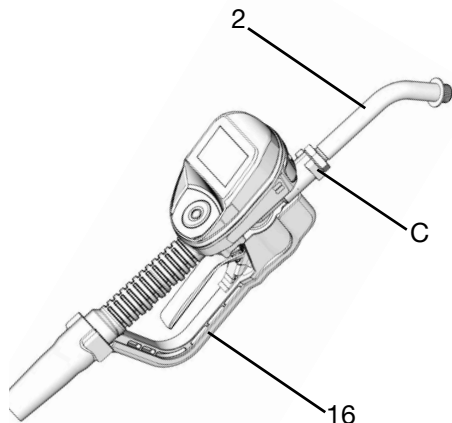

FIG. 7
1. Adjust the nut (C) on the extension (2) so the maximum thread engagement of the extension (2) can be used (FIG. 7).
2. Thread the extension (2) into the housing until it bottoms out (FIG. 7).
3. Align the extension (2) with the metered dispense valve housing and handle (16) (FIG. 7).
4. Firmly tighten the nut (C) (FIG. 7).